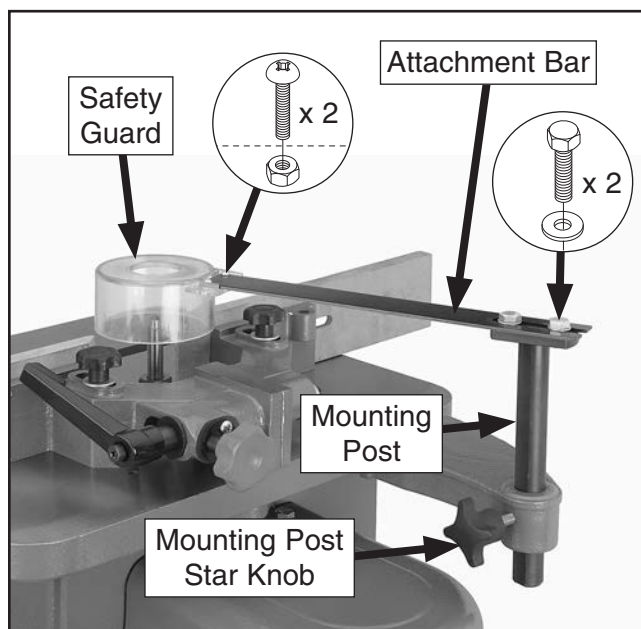

Figure 13. Safety guard components correctly assembled on shaper.
12. Insert mounting post into bracket that is bolted to back of shaper table, and tighten star knob to lock mounting post in place (see **Figure 13**).
13. Secure attachment bar to mounting post with (2) M8-1.25 x 12 hex bolts and 8mm flat washers (see **Figure 13**).
14. Attach safety guard with (2) M4-.7 x 10 Phillips head screws and M4-.7 hex nuts. Completed assembly of safety guard should now look like **Figure 13**.